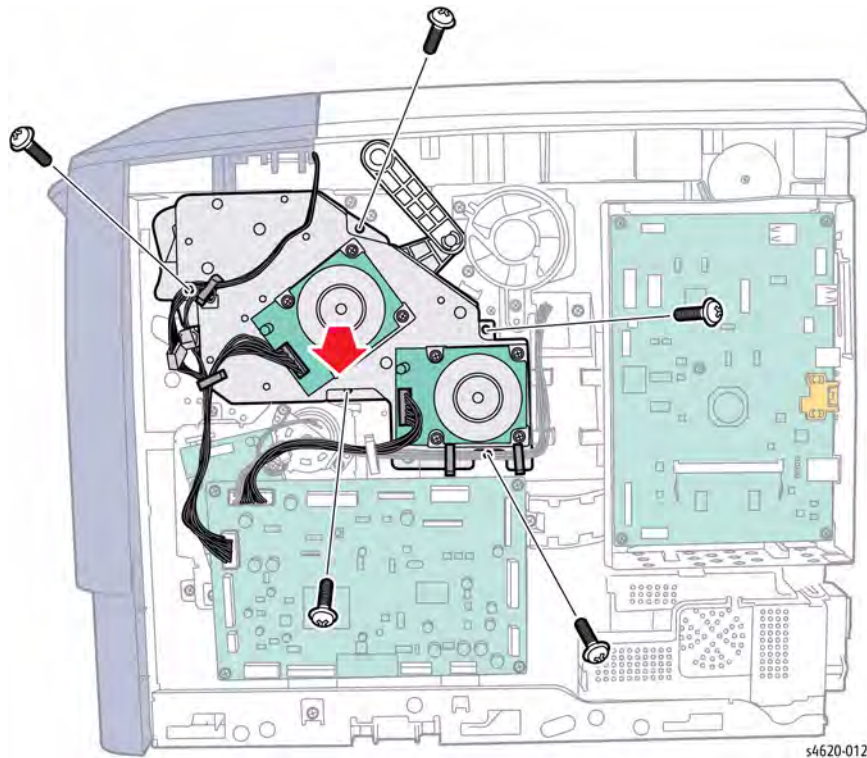

Figure 3 Remove main Drive Assembly screws
10. Remove 6 screws (1 silver, 5 gold) that secure the Main Drive Assembly to the chassis, Figure 3.